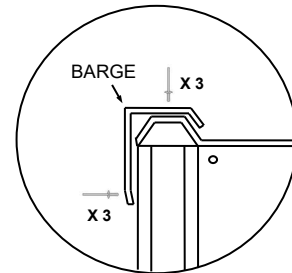

fig.3
- Rivet the Barge Flashings to the roof and the side wall, using three rivets on top of barge and into the side (**fig.3**).